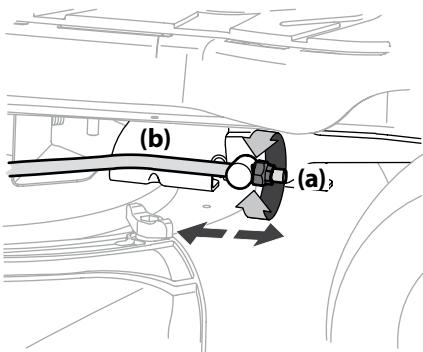

Figure 4-5
3. Locate the flange lock nut (a) on the front end of the PTO lift rod (b). See Figure 4-5.